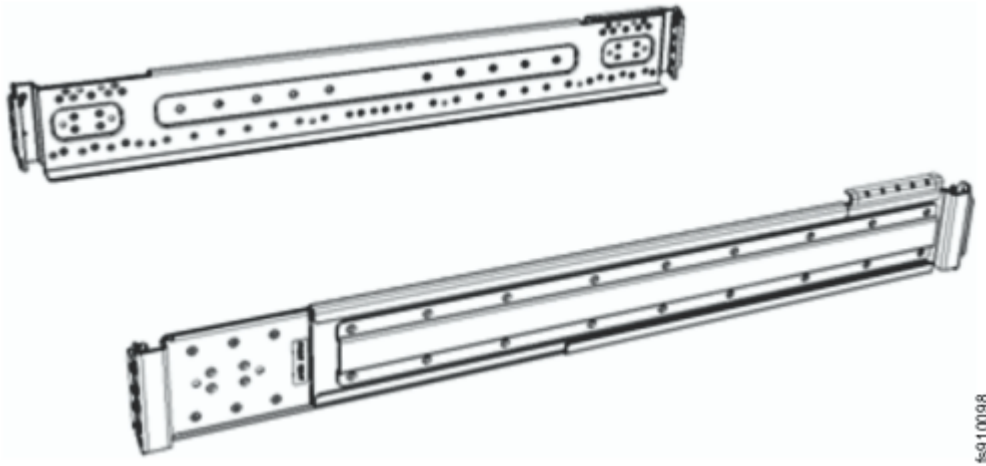

Figure 8. Control enclosure support rails
1. Locate the control enclosure rails, as shown in Figure 8 on page 13.